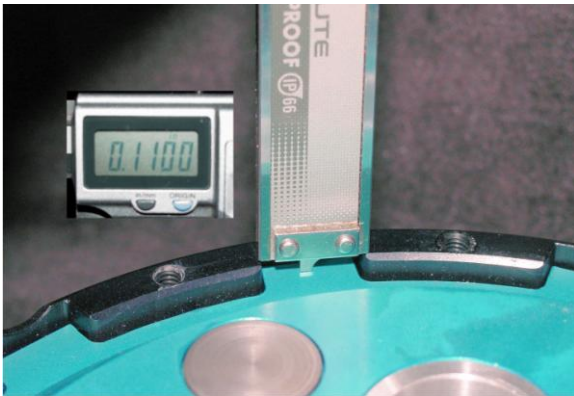
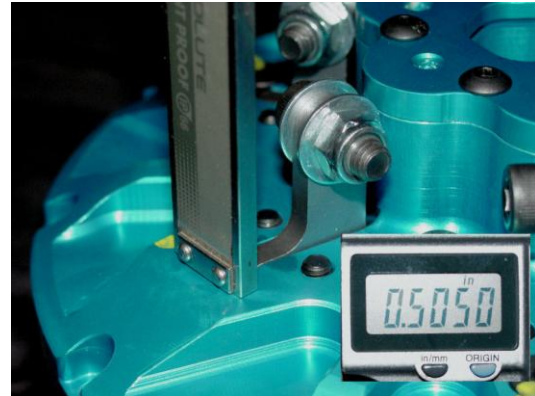

Fig. 1
Fig. 2
- C. Once the basket is in place, replace the hardened steel spacer that goes between the face of the clutch basket and the inner hub with the four (4) piece needle bearing spacer supplied with your unit. **Make sure the needle bearing has a thrust washer on both sides.** Install the modified stock hub. Tighten the locking nut to the factory specification. Check to make sure you have the correct end play on your basket after tightening. If you don't have .003 to .006'' end play clearance, the inner hub will not rotate when the nut on the input shaft is tight. If the basket has too much end play, it could cause damage to the clutch or engine.
- E. Install the bottom spacer into the basket making sure the dowel pins are in the holes drilled at the bottom of the basket. Check to make sure the spacer is sitting flat on the bottom of the inside of the basket. This is critical to make sure the clutch stack up is correct. Install the friction and metal plates the same way as with the stock procedure, **start with an OEM thick fiber**, then steel, then fiber, then steel, continue until you end with a fiber. The 2 MTC fibers can be mixed in at any location towards the top of the clutch pack. The Kawasaki KZ1000 Gen II clutch has (7) steels (7 OEM steels-0.091”) and (8) fibers (2- MTC fibers-0.118”, and 6- OEM fibers-0.151”) plates. The total clutch pack should be approximately 1.779”.
- F. Insert the pressure plate on top of the last fiber. The height from the top of the tang, on the pressure plate to the top of the basket should be approximately 0.110” (See Fig. 1). This will give you an air gap below your arms to the buttons of 0.110”.
- G. Place the hat assembly on the basket and tighten the twelve (12) allen head cap screws to secure it.
- H. The air gap between the arms and the pressure plate buttons can be measured using the thin bottom section of a caliper. Stick the caliper rod into the slot opening just behind the arm (See Fig. 2) until it hits the top of the button on the pressure plate. Take a height reading to the top of the Gen II hat, this reading should be between 0.490”-0.510”. This gives an air gap of 0.100”-0.120”. It is better to start with an air gap of 0.100” to compensate for clutch wear. This technique can be used to maintain the air gap, after repeated runs, without removing any part of the clutch.